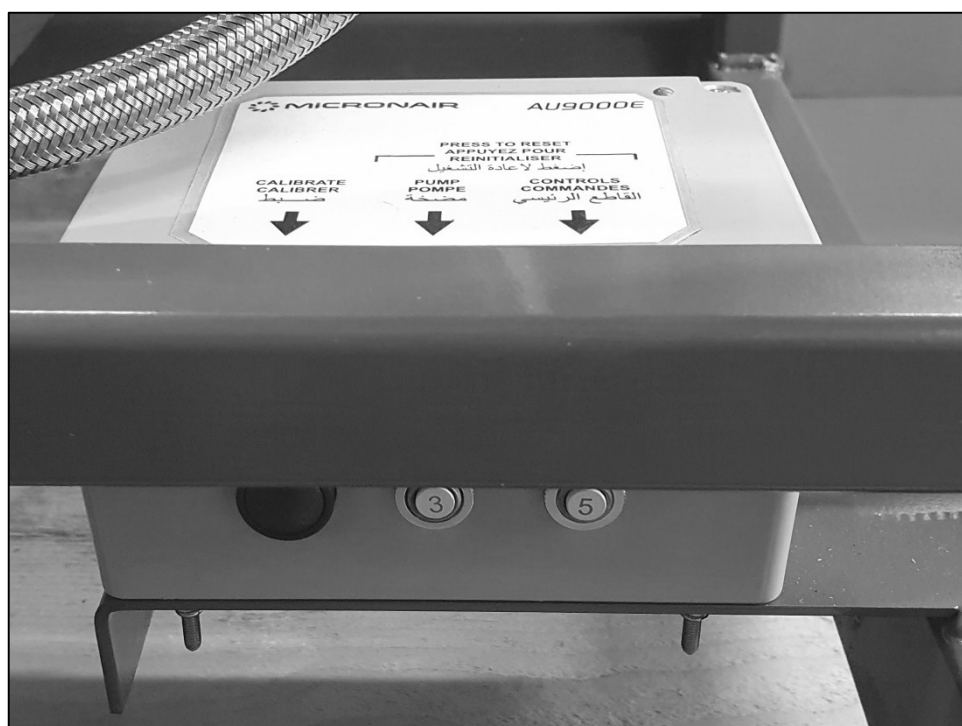

Fig. 4 – Calibration Switch on Junction Box
7. Press and hold the **Calibrate** switch on the box at the right hand side of the fogger (see Fig. 4) until a steady stream of liquid comes from each atomiser head.